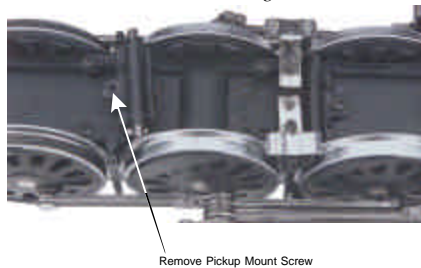

Figure 13: Locate and remove the pickup mounting screw
3. Next, locate the pickup assembly behind the middle set of drive wheels and remove its mounting screw as seen in Figure 13.